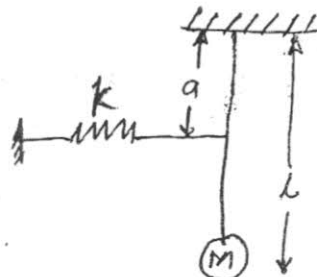

Fig. 7(c)
c) Find the Natural frequency of the system give in Fig. 7(c).